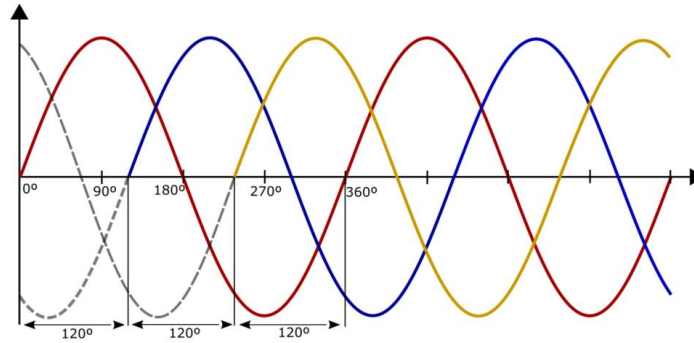

Figure 4: Three-Phase Power Supply AC Waveform
- A three-phase power supply is composed of three conductors, called lines, which each carry an alternating current (AC) of the same frequency and voltage amplitude, but with a relative phase difference of 120°, or one-third of a cycle (see Figure 4). These systems are the most efficient at delivering large amounts of power, and are therefore used for delivering electricity from generating facilities to homes and businesses all around the world.